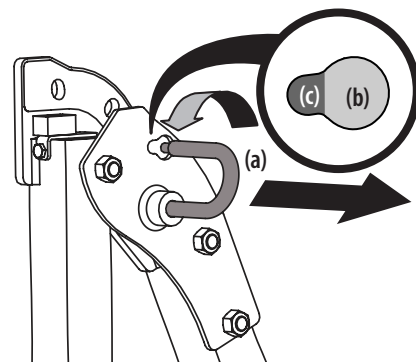

Figure 3-3
1. To change the position of the ROPS, pull slightly up/push forward on the upper ROPS to relieve any tension on the locking pin (a) and rotate the locking pin (a) from the LOCKED (b) position into the ADJUSTMENT (c) position. Repeat the procedure for the locking pin on the opposite side. See Figure 3-3.